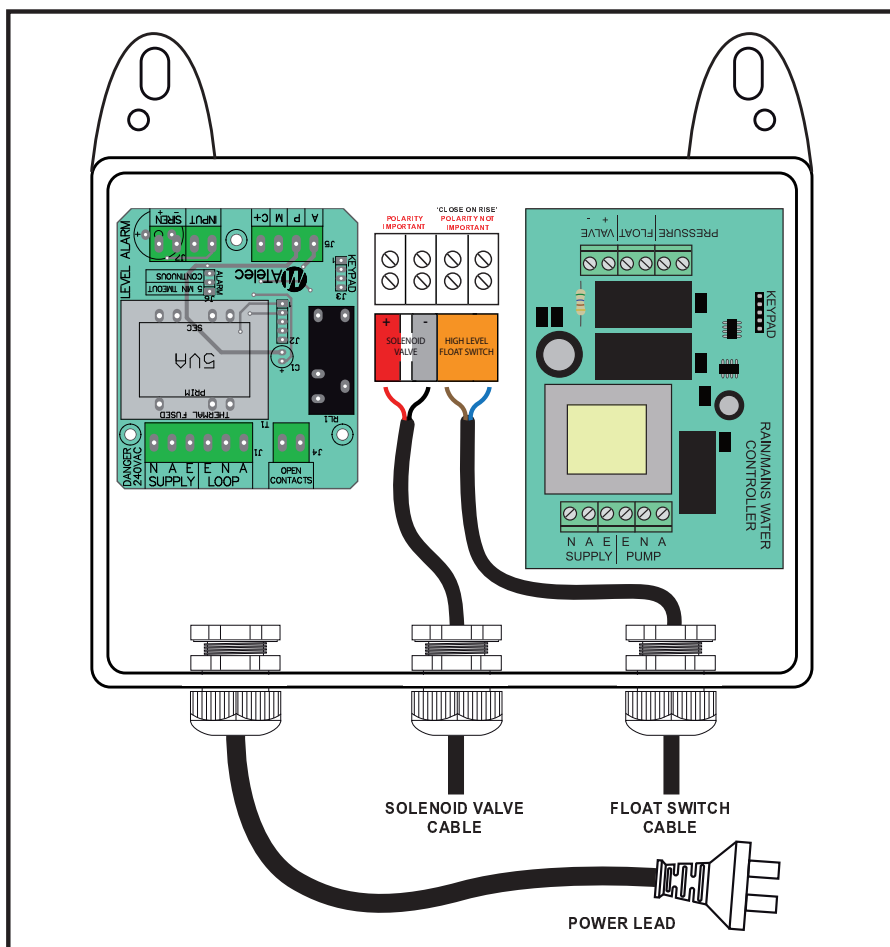

FIGURE 1
- Connect valve to connectors provided within the enclosure (**See Figure 1**).
- Connect Float Switch cabling to connector provided. Contacts 'Close on Rise' (**See Figure 1**).